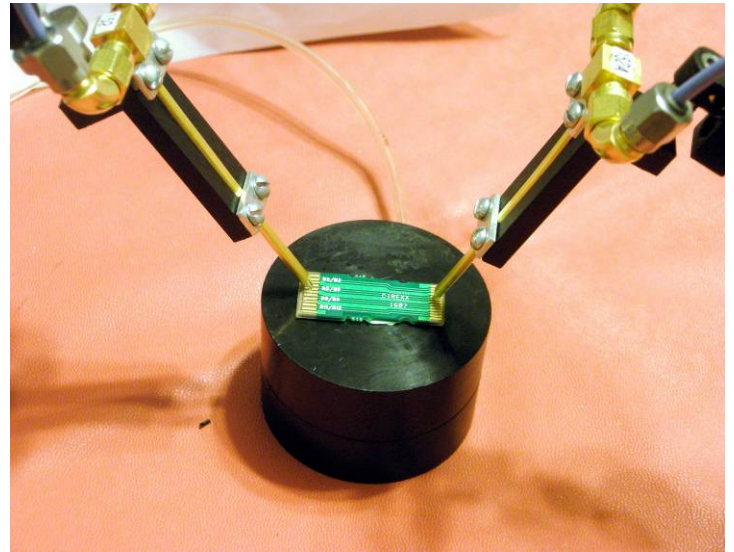

Fig. 27) Close up of the SAS/SATA connector on the FS-2-VB - Fixed Vacuum Chuck being probed by the GigaProbes™.
4. **Holding the Device Package:** Put SAS/SATA connector on the **FS-2-VB - Fixed Vacuum Chuck** (Fig 27) that accommodates this small PCB connector.